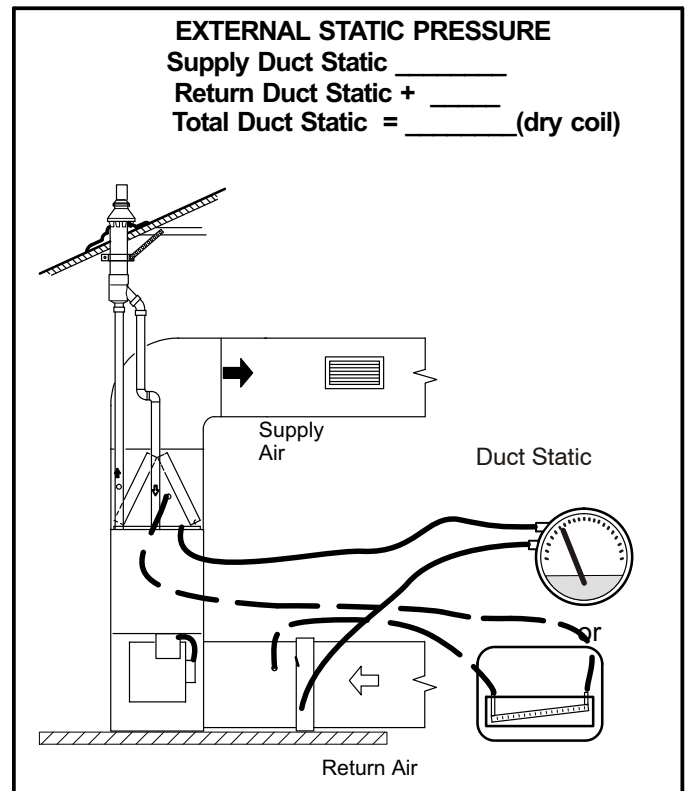

FIGURE 52
- 1 - Tap locations shown in figure 52.